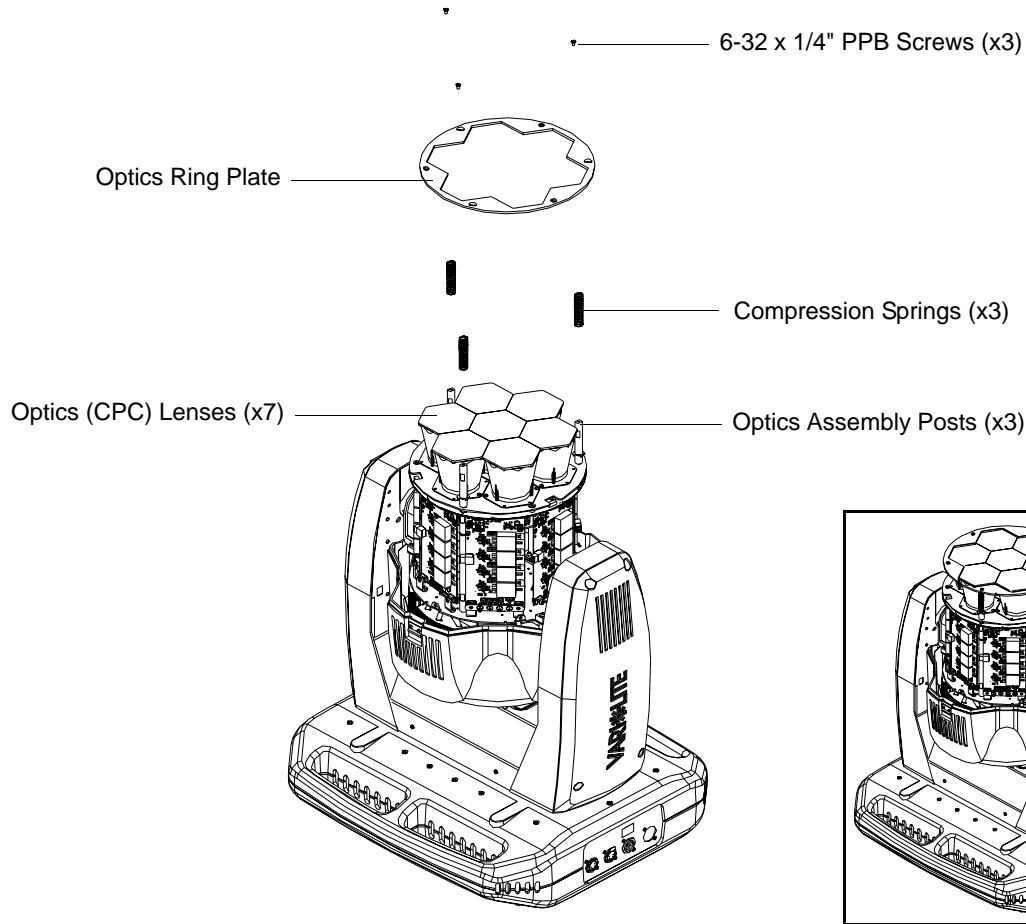

Figure 2-8: Fixed Beam Application Assembly
- a. As shown in Figure 2-8, slide compression springs over optics assembly posts.